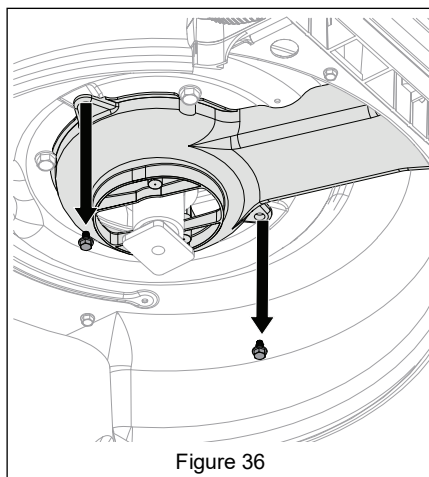

Figure 36
3. Remove two hex screws retaining spindle pulley cover and remove cover. See Figure 36.